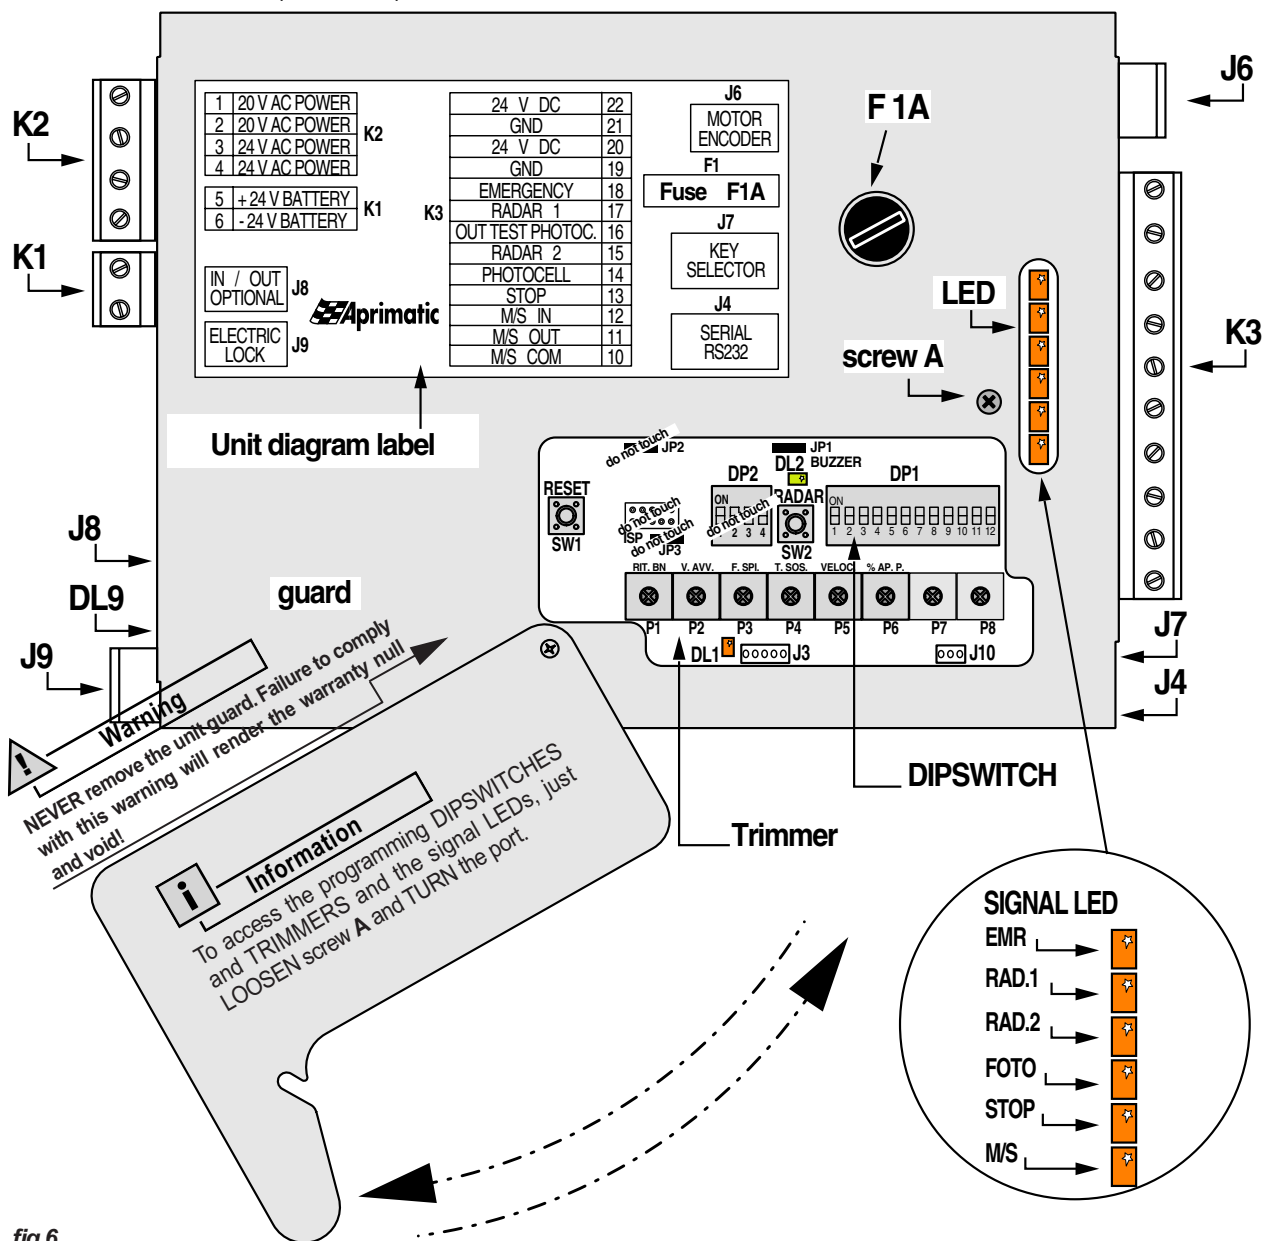

fig.6
WING NK CONTROL consists of the electronic control CARD, secured to an extruded aluminium profile which acts as SUPPORT for securing it to the Automation Module. The card is protected by a guard which has a port for accessing the programming and signal devices while the terminal boards and connectors are directly accessible at the sides (fig.6).
- 2 Insert the Selector connector in **J7** on the WING NK CONTROL card (fig.6).